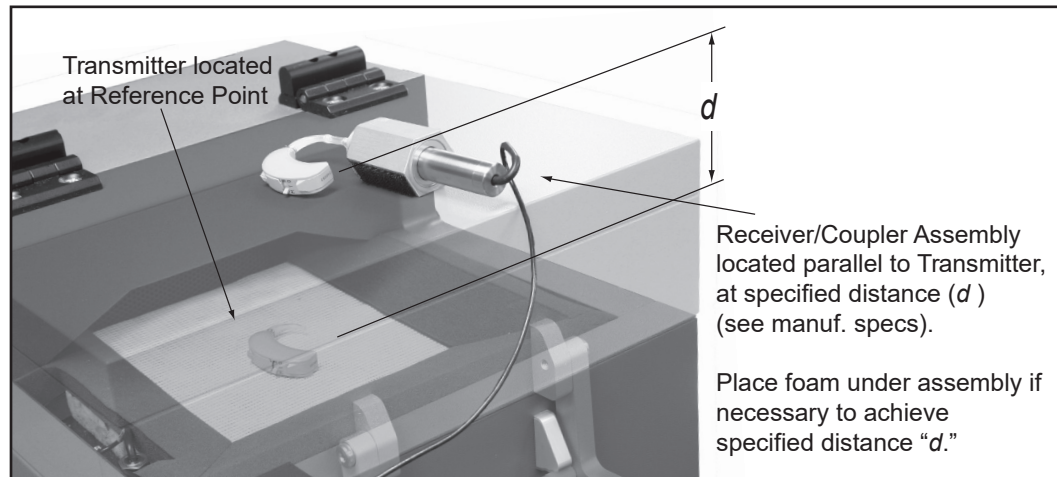

Figure 3.3.7—Testing Wireless CROS Hearing Aids
A CROS (Contra-lateral Routing of Signal) aid consists of a transmitter and a receiver so that sound received on one side of the head can be transmitted to the other side without a wire connection. You can test these units in the test chamber of the FONIX 8000 Test System. See Figure 3.3.7.
2. The two sides must be directly parallel as illustrated (See Figure 3.3.7).